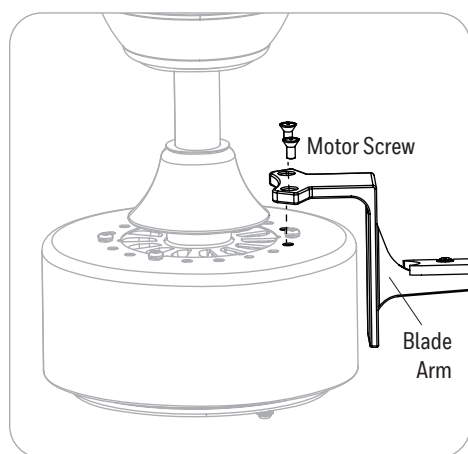

Figure 4.4
4. Attach the blade arms to the top of the motor assembly using the motor screws. Completely secure each blade arm to the motor assembly before moving to next (Figure 4.4).